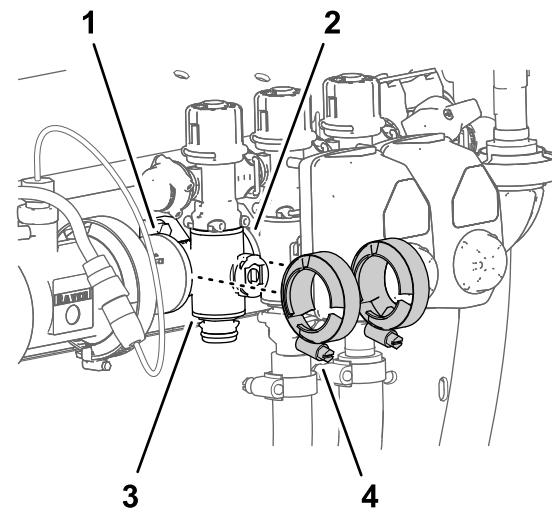

Figure 116
3. Remove the 2 flange clamps that secure the section-manifold valve to the flanges of the adjacent components (Figure 116).